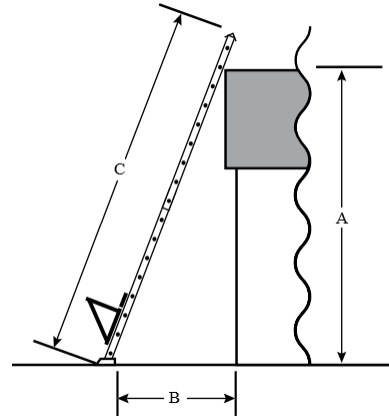

Figure 1
- It is important to have the correct length of ladder set-up and the proper angle for safe material handling See Figure 1